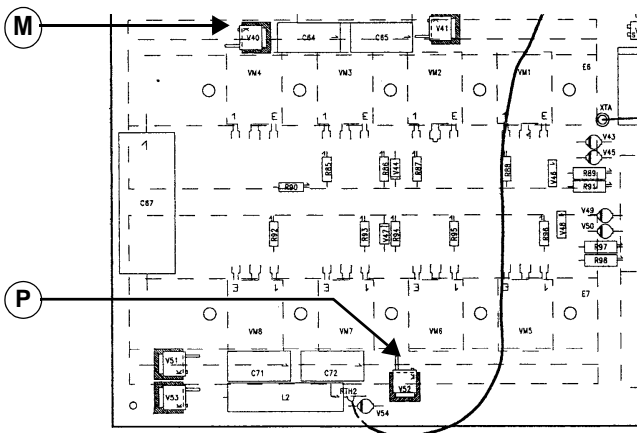

FIG. 8 - RIF. 01 MOD. CE22541
2. Disconnect the feeder and remove the short circuit, set the oscilloscope with a range of 1V/Div and connect the probe X100 between points M (GND) and P (Probe) (fig. 8); connect the machine to the power supply, switch it on: